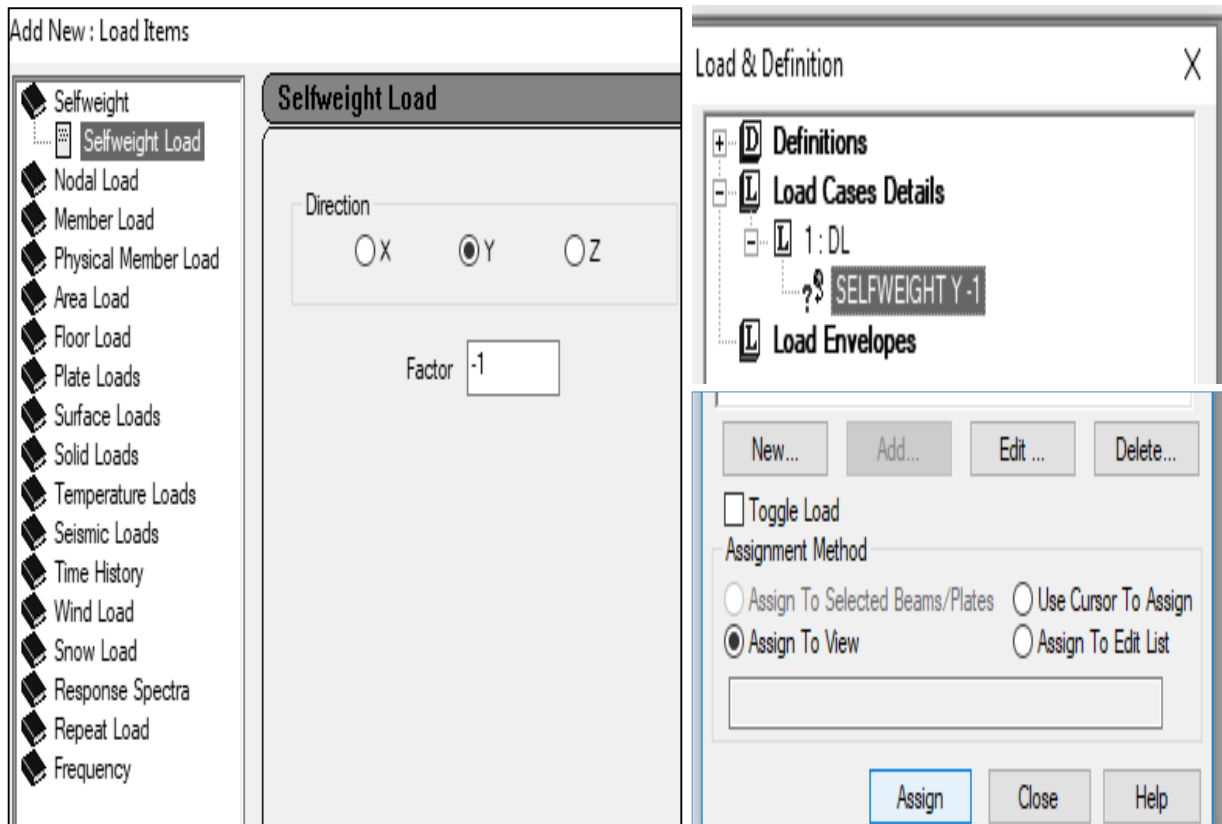

Fig: 4.10
- DL → Add → Self weight → Direction = Y, Factor = -1 → Add → Close. Then SELFWEIGHT Y-1 → Assign To View → Assign → Yes. (Fig: 4.10)